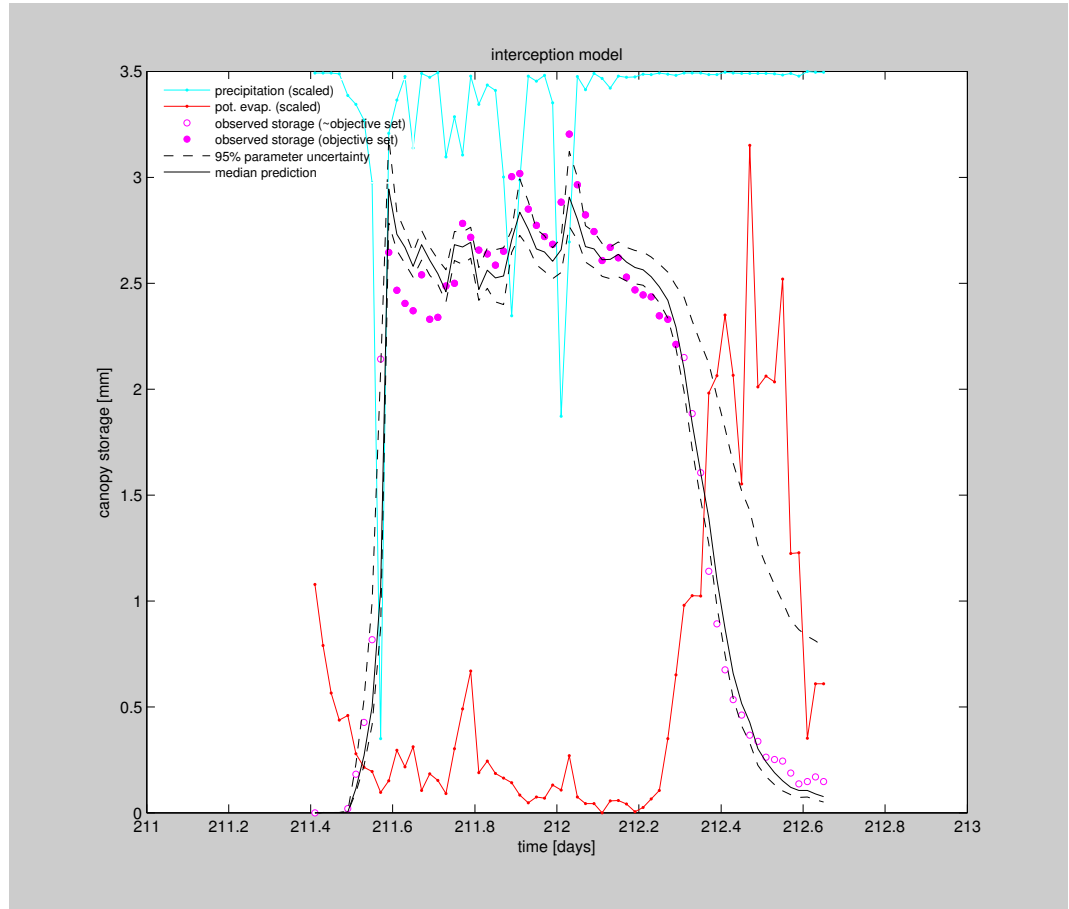

Figure 5.3: Example of the interception model with objective based on high-storage values only.
- 54. If you didn’t already do this, adapt the script such that the simulated canopy storage dynamics are visualized starting from $t=211.41$ through $t=212.65$. Let your visualization differentiate between observations that are part of the objective set and those that aren’t. You should get a figure more or less like Figure 5.3.